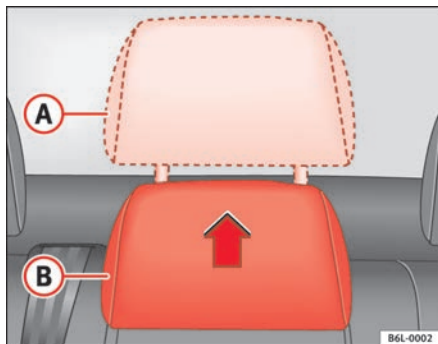

Fig. 5 Adjusting central rear head restraint
- Raised position or position for use **A** ⇒ fig. 5. In this position, the head restraint is used normally, protecting the occupant of the rear central seat, along with the rear seat belts.
- Rest position **B** ⇒ fig. 5. This position improves the driver's rear visibility.